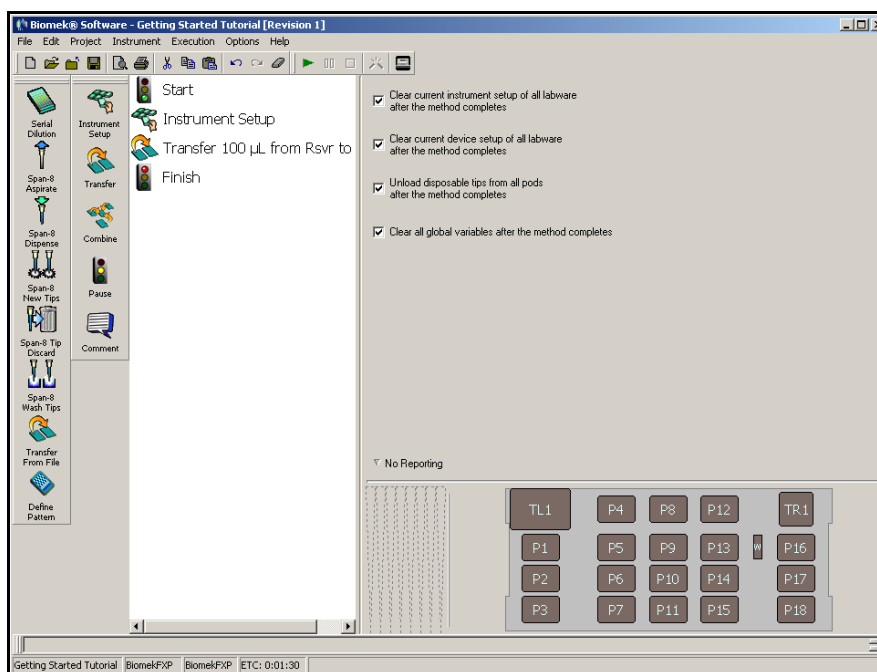

Figure 5-18. Method name has changed
3. Choose **OK**. Now notice how the method name in the Biomek main editor has changed to **Getting Started Tutorial [Revision 1]** (Figure 5-18).